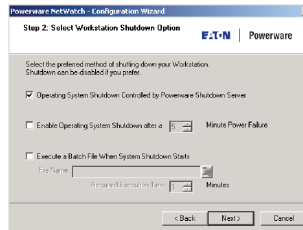

Figure 20. Select Shutdown Option
10. Select your preferred method of shutting down your system (see Figure 20). The default selection is recommended. Select **Next**.